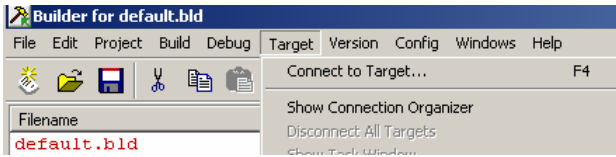

FIGURE 11 Activating the Connection Organizer.
1. Start the MULTI debugger. In the Target menu, select Show Connection Organizer (Figure 11).